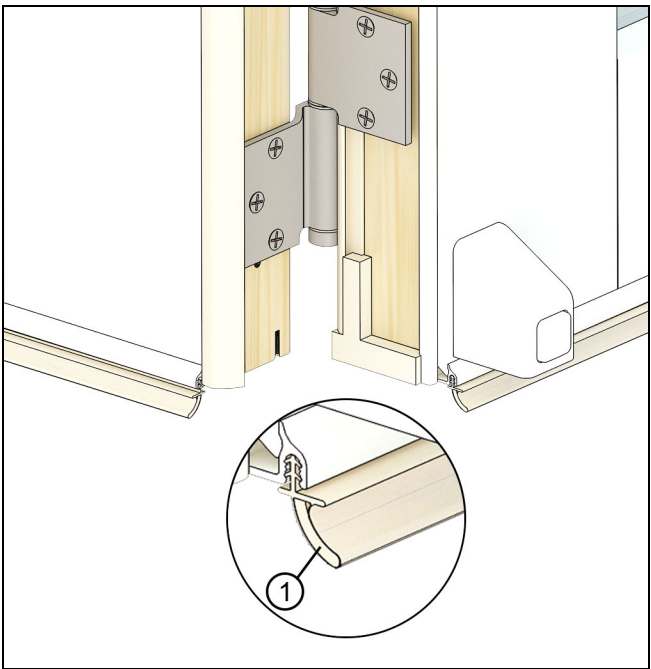

Figure 86
14. Install the bulb weatherstrip into the kerf on the rail cap at the bottom of the panels. This weatherstrip is taped to the panel from the factory. Make sure you orient the weatherstrip so that the bulb is angled to the exterior. See Figure 86.
NOTE: Your weatherstrip may look slightly different than the version shown in Figure 86, but should be applied in the same manner, with the bulb angled to the exterior.